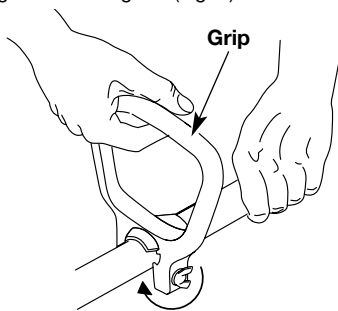

Fig. 3
5. Tighten the wing nut (Fig. 3).